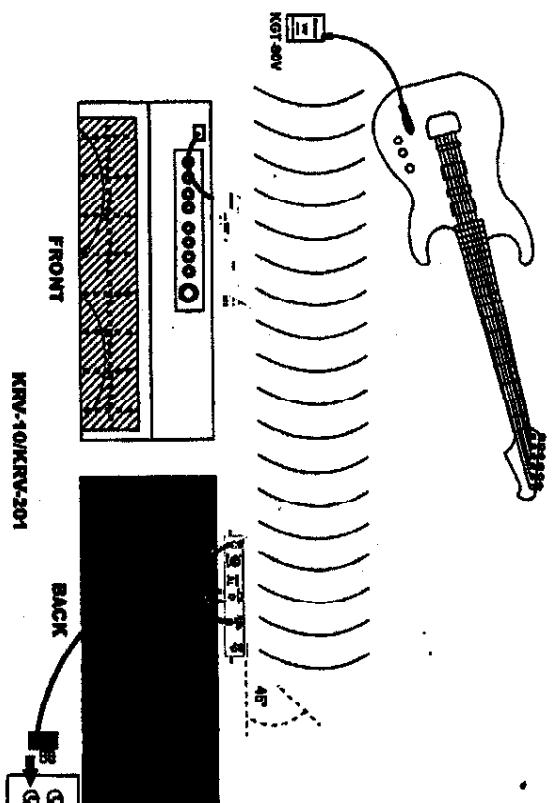

FIGURE 10
1. Refer to Figure 10, Connect the supplied ac power adapter into the DC INPUT connector in back of the receiver. Insert the adapter's cable into the power cable retainer. (\*suit of KRV-10\*) Plug the adapter into a wall socket or other ac power source (use HD41N110 for 220VAC, 50Hz power, use HD41N110E for 120VAC 60Hz power). Push the power switch on the face of the receiver, the red POWER light on the receiver will glow.